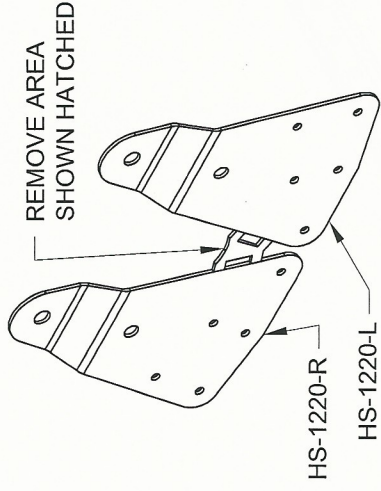

FIGURE 1:
Step 1: Mark and separate the F-1220-LR AST Control Horns per call-outs in Figure 1.